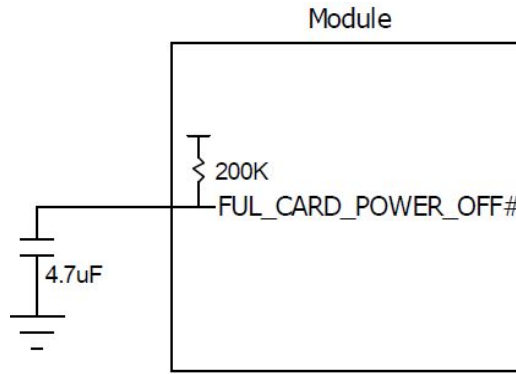

Figure 3-5 Circuit for Automatic Start-up
- Automatically start-up when powered on, and the circuit design is shown in Figure 3-5: